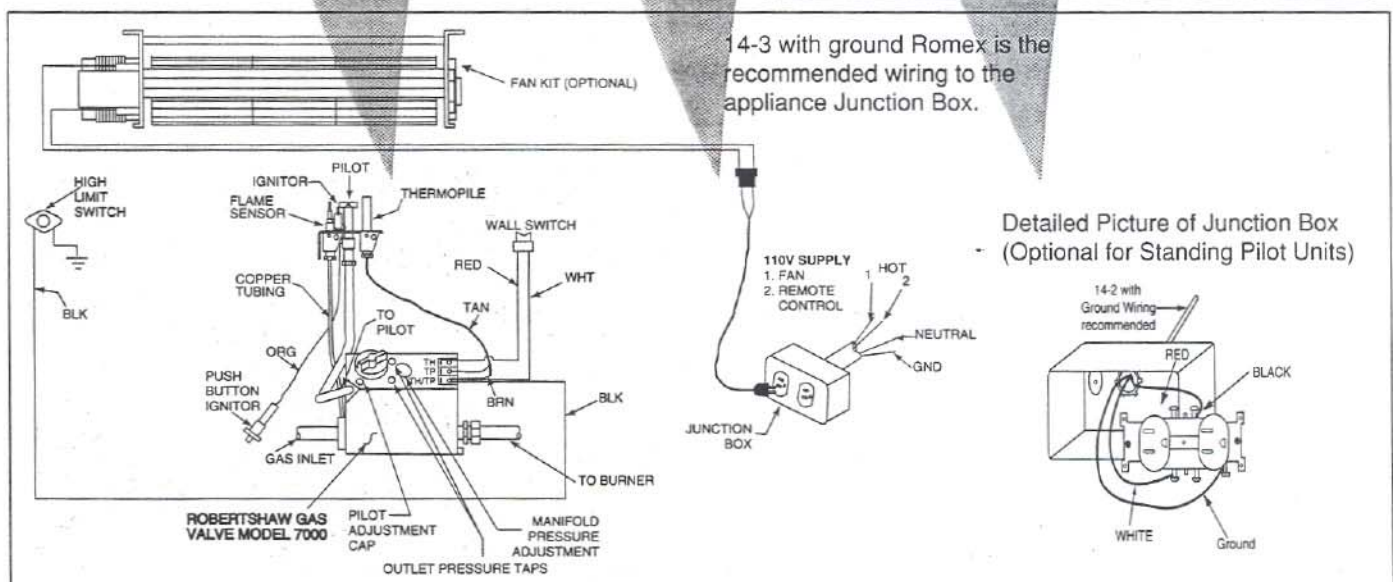

Figure 23 - Standing Pilot Ignition Wiring Diagram
**1. Appliance requirements.** A wiring diagram is shown in Figure 23.